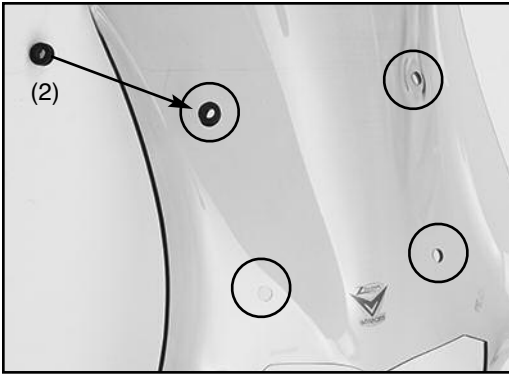

Figure 2
1. Install one Grommet (2) into each hole of the windshield. **Figure 2**